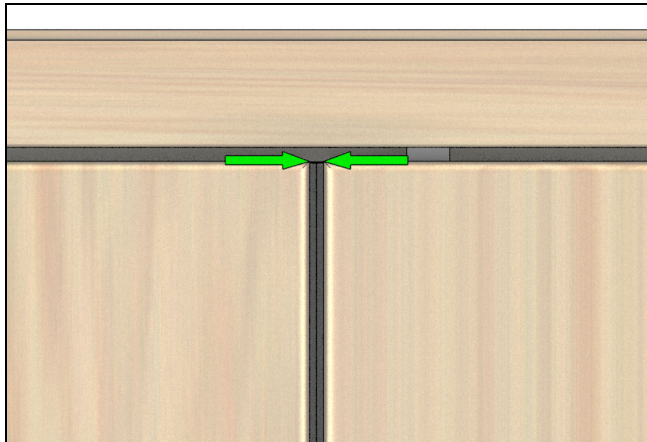

Figure 29
1. After establishing that the door frame is in a square and true condition inspect for even reveals between the door panels and frame. On XX and OXXO panels the tops of the panels should be even. See Figure 29.